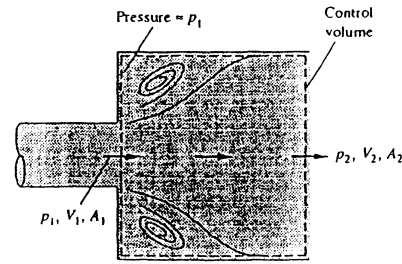

Fig. P3.59
**4.44** Suppose that we wish to analyze the sudden pipe-expansion flow of Fig. P3.59, using the full continuity and Navier-Stokes equations. What are the proper boundary conditions to handle this problem?